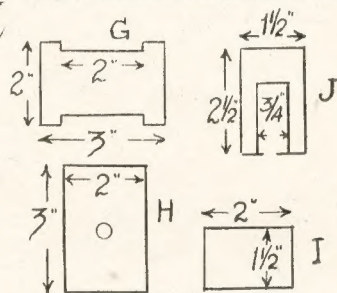

Fig. 3—Parts of the cabin
The cabin, from which the lifting gear is operated, is shown in parts at Fig. 3, made from the fretwood. The base is shown at (G), sides at (H), top at (I) and front at (J). In the centre of the sides bore a  $\frac{3}{8}$  in. hole for the winding drum, a